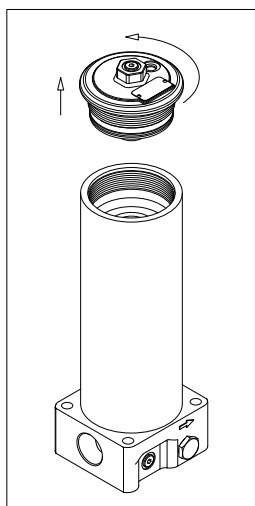

fig. 17
- (Fig. 17) Unscrew the bowl cover